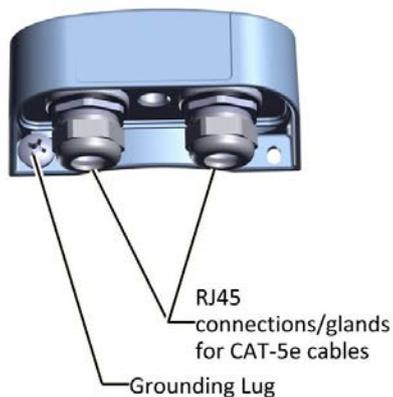
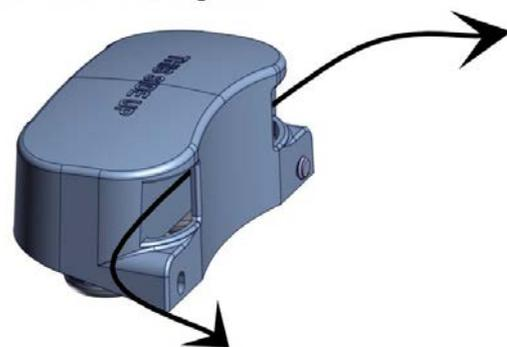
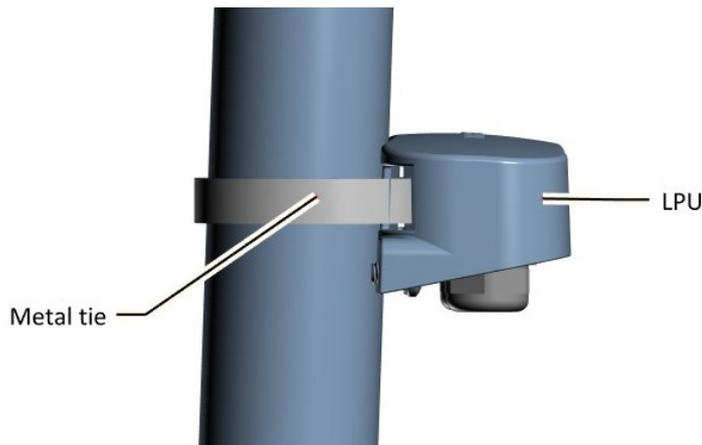

Figure 1-48: LPU: Bottom View
Figure 1-49: LPU: Side View
Figure 1-50: LPU attached to pole with metal tie
The LPU has two cable glands on the bottom for CAT-5e/6 cables, in addition to a grounding lug. There is an extra hole for a second screw when installed on a wall. On the side of the LPU is a slot for the metal tie when installed on a pole, as shown in Figure 1-48 and Figure 1-49:
2. Insert the metal tie through the slots as shown in Figure 1-49. Make sure the LPU is oriented in the correct direction, as shown in Figure 1-50.